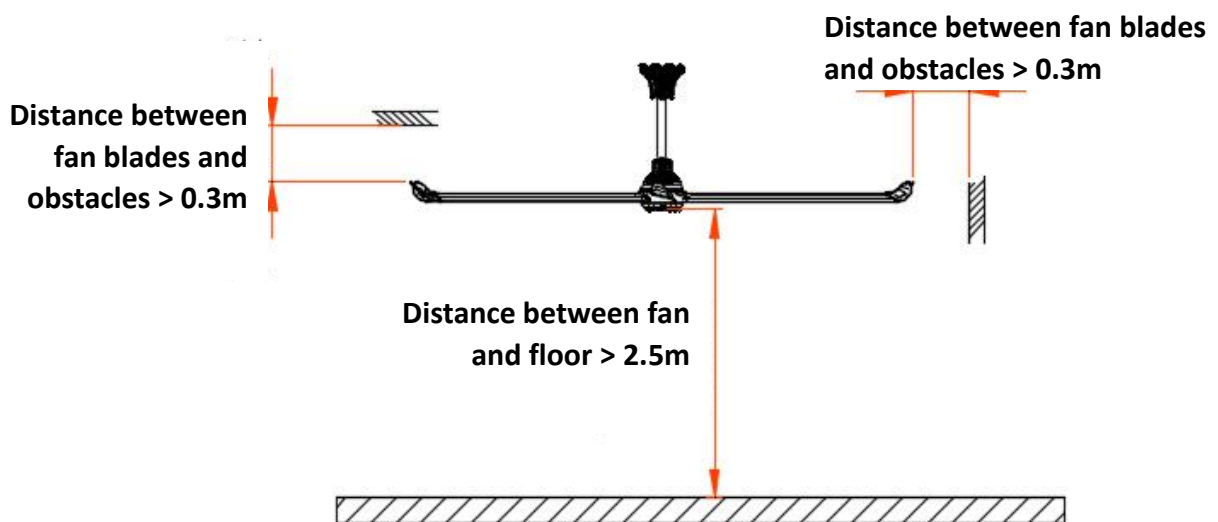

Figure. 6
- ① The levelness of the fan. If a serious tilt happens in extension tube or fan blades, it is necessary to use a spirit level to readjust the position;
- ② The safety distance between the fan blades and the obstacles. If the safety distance does not meet the requirements shown in Figure 6, please readjust it.